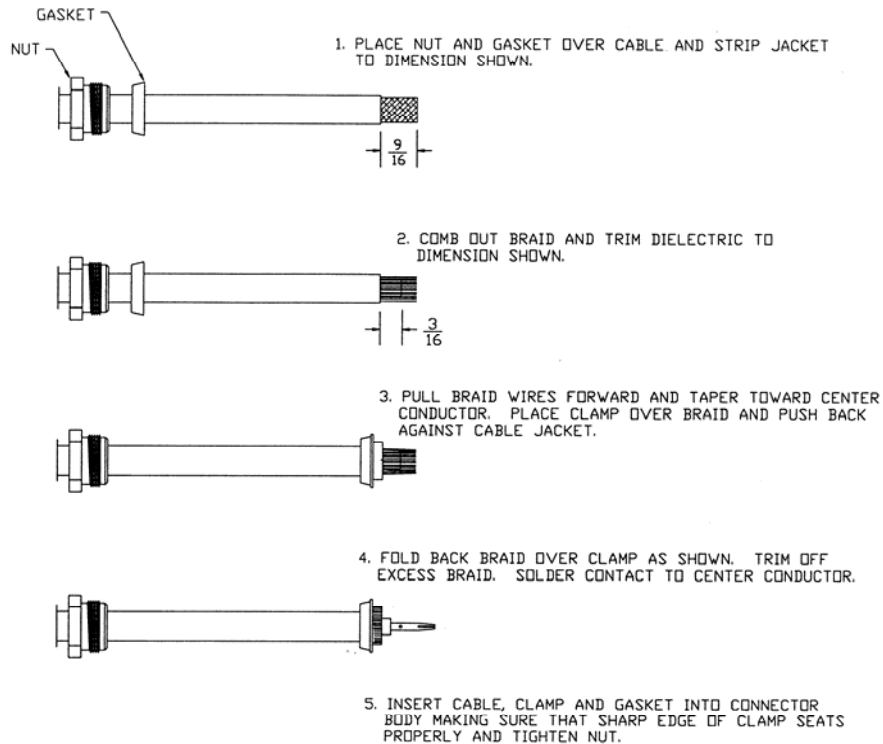

Figure 1-12. Coaxial Cable Installation
2. Trim the coaxial cable to the desired length and install the BNC connector (330-00087-00) per the cabling instructions on Figure 1-12. If the connector is provided by the installer, follow the connector manufacturer's instructions for cable preparation.